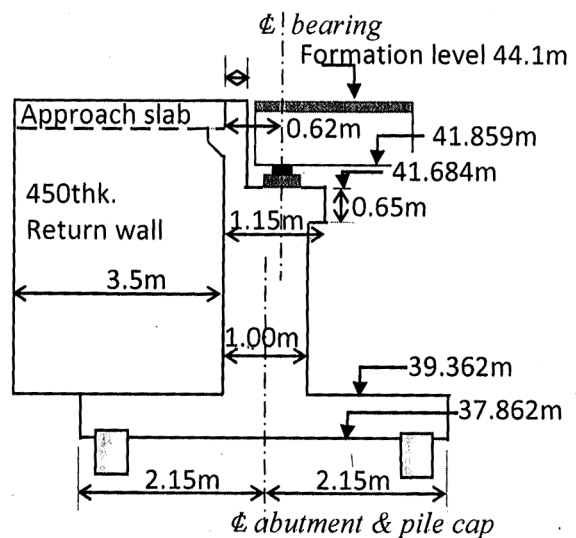

Fig. Q2
2. Consider the abutment shown in Fig. Q2, that supports a superstructure of 21 m clear span (21.6m out to out). Compute